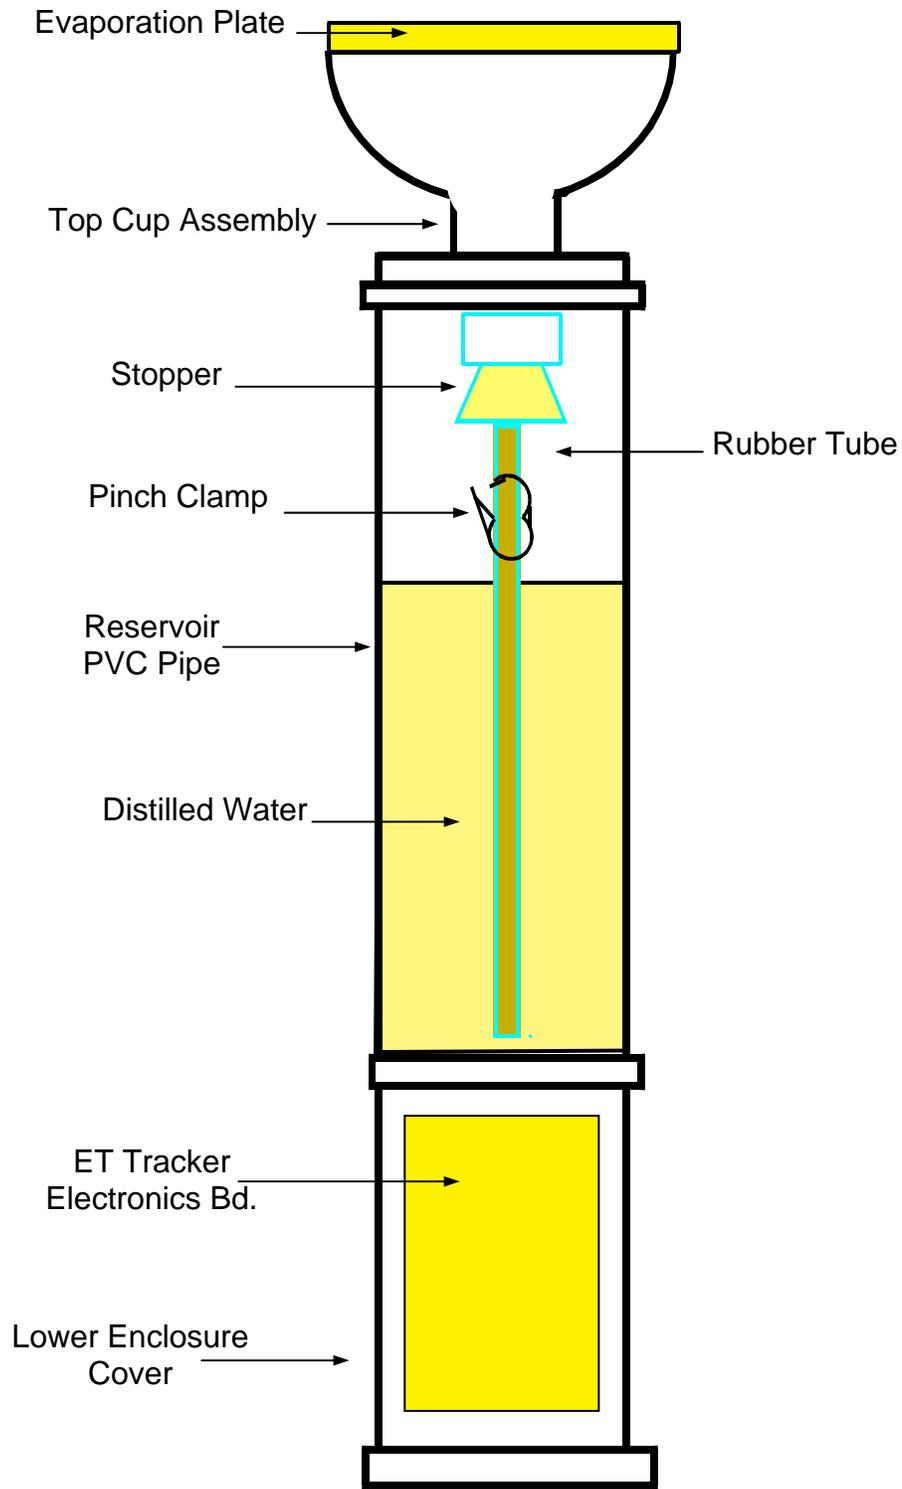

Figure 7: ET Tracker Components
- Step 1** Refer to Figure 7: ET Tracker Components. Locate the ET Tracker assembly. Release the two bottom retaining clips and remove the lower enclosure cover to expose the Tracker electronics. Install the four provided alkaline batteries (size AA) in the battery holder with the positive (+) end pointing towards the red side of the holder.
- Step 2** Refer to Figure 7: ET Tracker Components. Release the retaining clips and remove the top cup assembly from the reservoir.
Refer to Figure 7: ET Tracker Components. Release the two bottom retaining clips and remove the lower enclosure to expose the tracker's electronic board assembly.